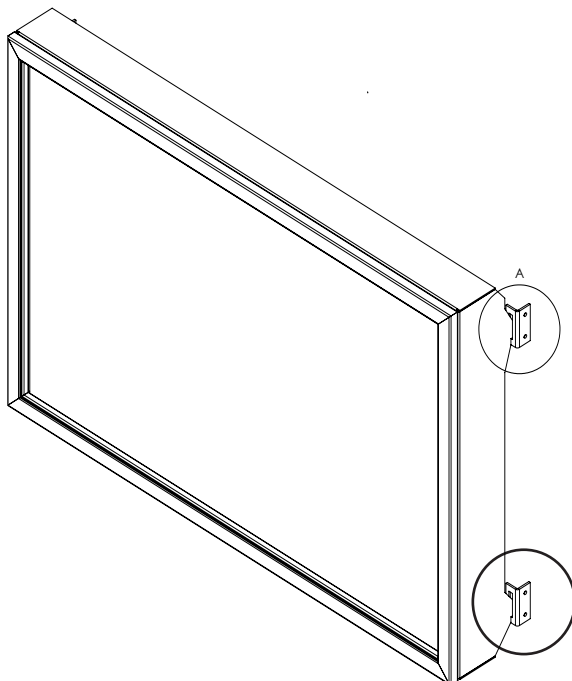

Figure 48: Installing Safety Screen onto Cabinet Bracket (Parts removed for clarity)
2. Lift the face upright in front of the fireplace with the four (4) hooks pointing towards the fireplace. Slide the hooks into the corresponding brackets on each side of the cabinet (see Figure 48). Ensure the hooks are secure before releasing the safety screen.